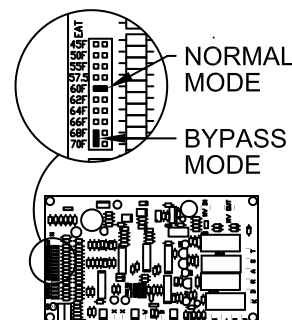

Figure 1
- a. **For EDSM and EDSM/TP control systems,** if the ambient temperature is at or above the Entering Air Thermostat (EAT) setpoint, note the setpoint position. Pull the jumper off the temperature setpoint (Normal Mode) and reinstall it sideways on the terminal block (Bypass Mode) as shown in Figure 1. Refer to the Individual Component Description section for additional information.